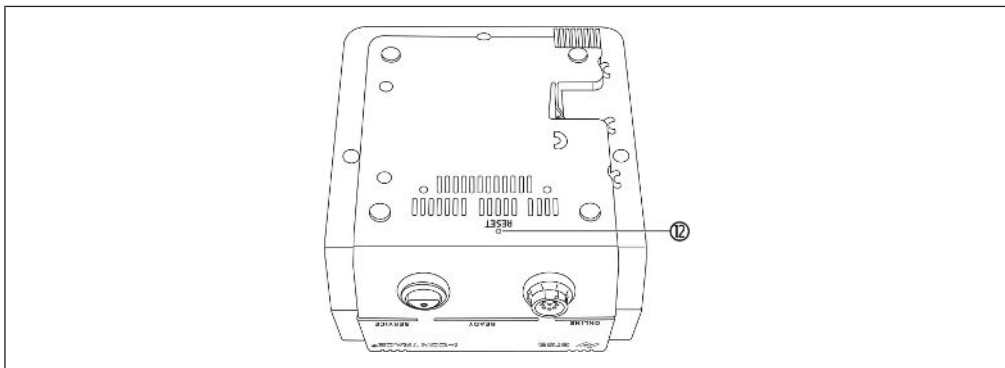

Fig. 25: Reset button [12] on the underside of the device
- c) Hold down the reset button [12] (see Fig. 25) on the underside with a suitable object (e.g. paper clip). Do not use a pointed object.